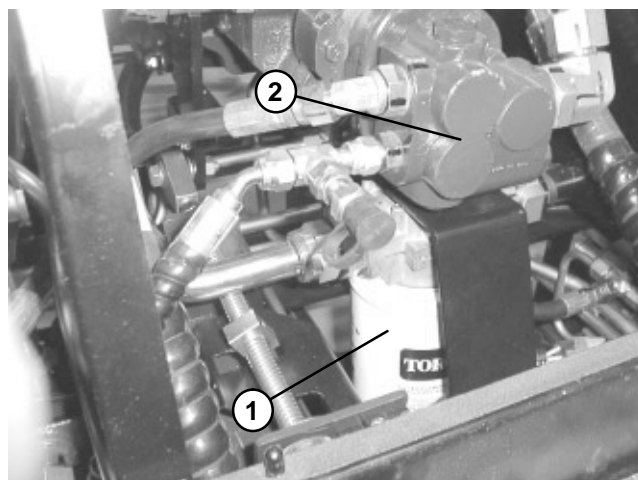

Figure 93
2. Clean area around filter mounting area (Fig. 93). Place drain pan under filter and remove filter.